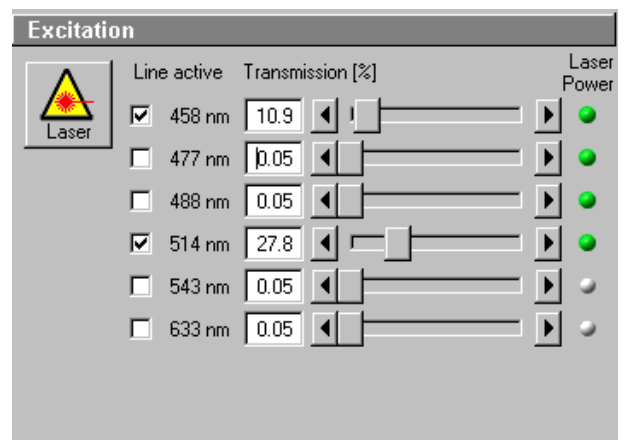

Fig. 21 Scan Control window, Channel settings
- Set the **Pinhole** to **1** Airy Unit (Fig. 21).
- When the image is saturated, reduce AOTF transmission in the **Excitation** panel (Fig. 21) using the slider to reduce the intensity of the laser light at the specimen.
- Increase the **Amplifier Offset** until all blue pixels disappear, and then make it slightly positive (Fig. 21).